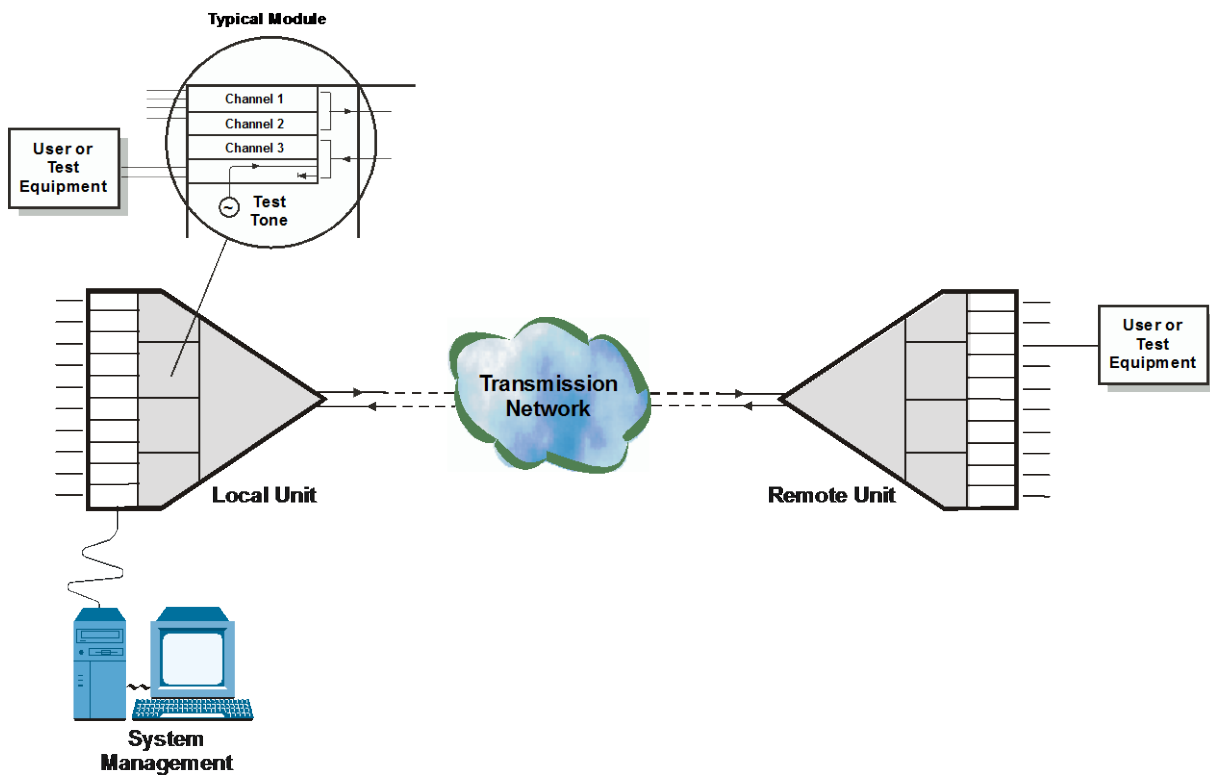

Figure 6-14. Test Tone Injection Path
*Figure 6-14* shows the test tone injection path.